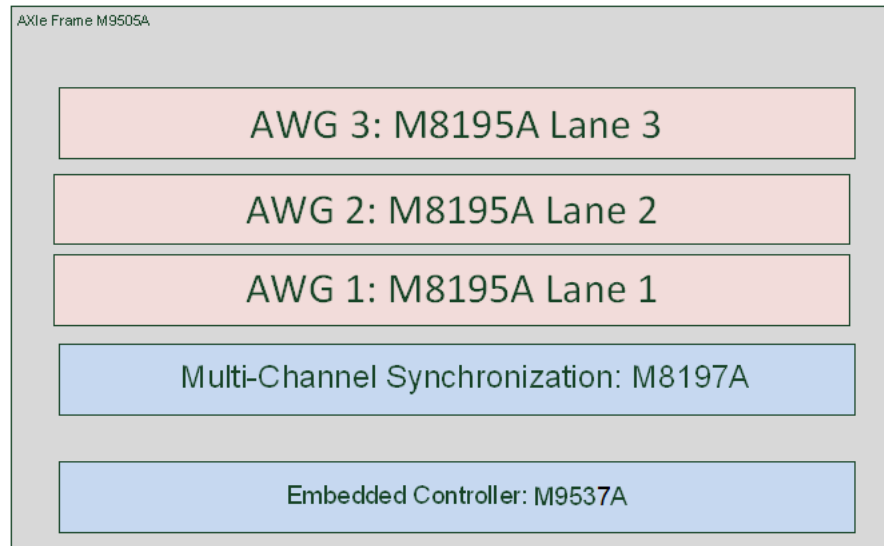

Figure 17 Hardware setup with Multi-lane M8195A
- 1 Put three M8195A and one M8197A in the 5 slot frame AXIe chassis as shown in the Figure 17.